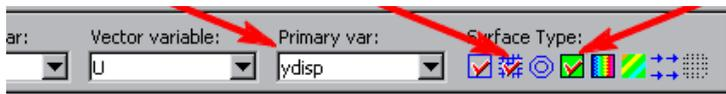

Fig.66. Choosing variable to be visualized and its format
- In the format area (see Fig. 66) select in the *Primary Var:* field the variable to be presented (*ydisp*) and in the *Surface Type* field the method of its drawing (*Grid on Surface on*). We draw the *Ydist* variable (*Y* axis displacement) with the grid (the *Turn Grid* button) and the surface (the *Turn Surface* button) displayed.